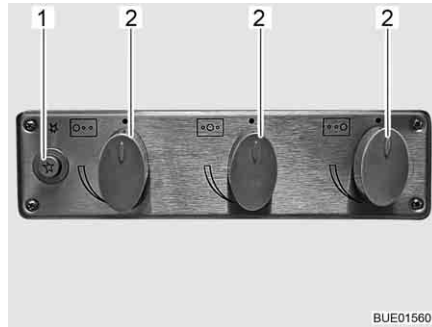

Fig. 166 Operating controls for gas cooker
- Turn the control knob (Fig. 166,2) on the burner you wish to use to the ignition position (large flame).
- Press the push button (Fig. 166,1).